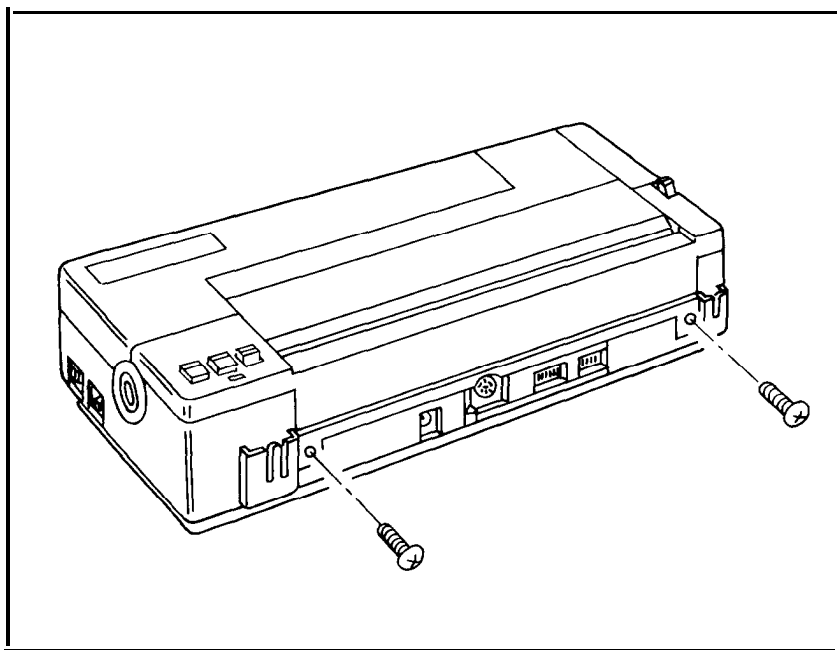

Figure 2-4. Removing the screws
2. Remove the two screws on the **battery holder cover** at the back of the printer by using a Phillips screwdriver (Figure 2-4) .